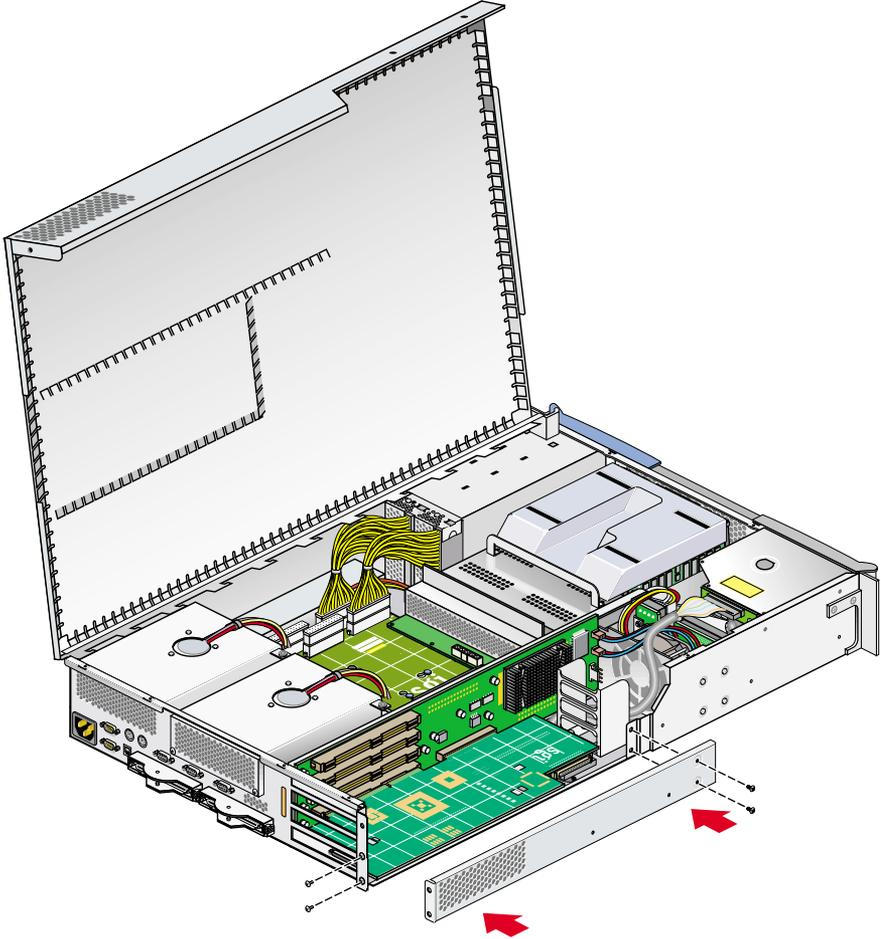

Figure 7-11 Replacing the Lower PCI/PCI-X Support Bracket
- Replace the lower PCI/PCI-X support bracket that covers the two bottom-most slots and screw in the four Phillips screws as shown in Figure 7-11 on page 117.